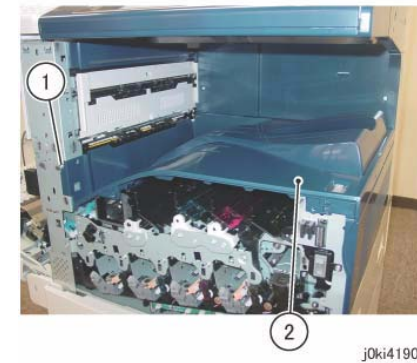

Figure 5 Remove the Top Cover
9. Remove the Top Cover. (Figure 5)